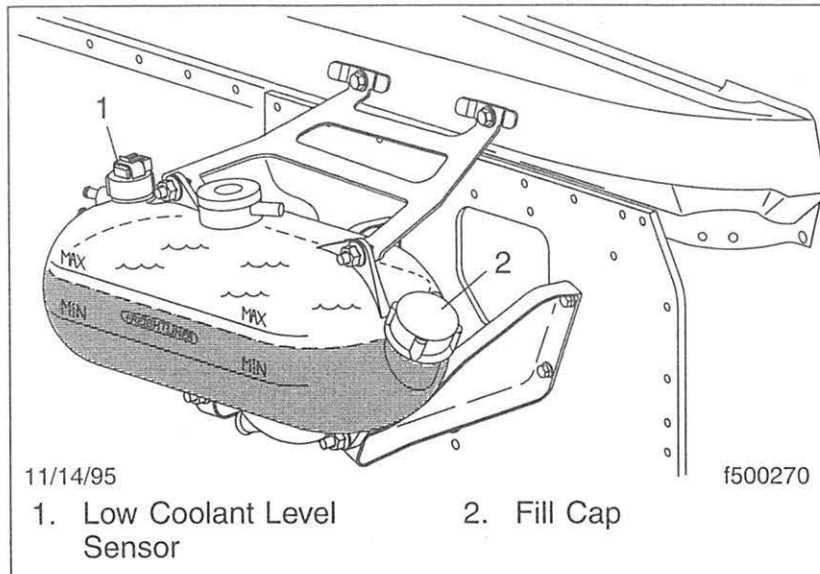

Fig. 11.3, Coolant Level Checking
6. Check the coolant level in the surge tank. See **Fig. 11.3**. If the coolant is low, check the amount of antifreeze protection. If the protection is adequate, add a 50/50 mixture of water and fully formulated, or equivalent, antifreeze. If additional protection is needed, add antifreeze only. Fill the surge tank with coolant to the MAX line.